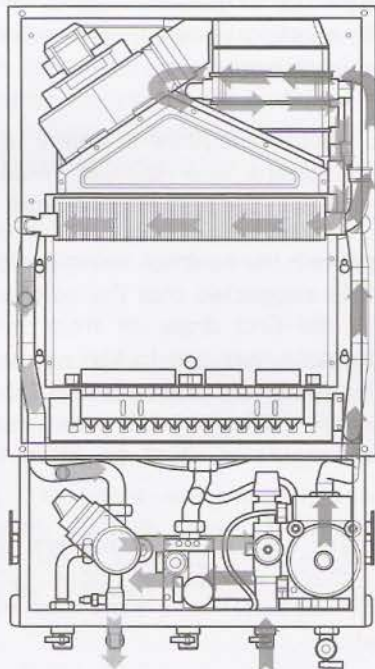

Figure 2b
4.2 Depending on demand water is either diverted via the three port valve to the secondary water-to-water heat exchanger for domestic hot water or directly to the heating system. Schematic diagrams showing the flow within the boiler's central heating hydraulic circuit figure 2a and D.H.W. hydraulic circuit figure 2b are given.